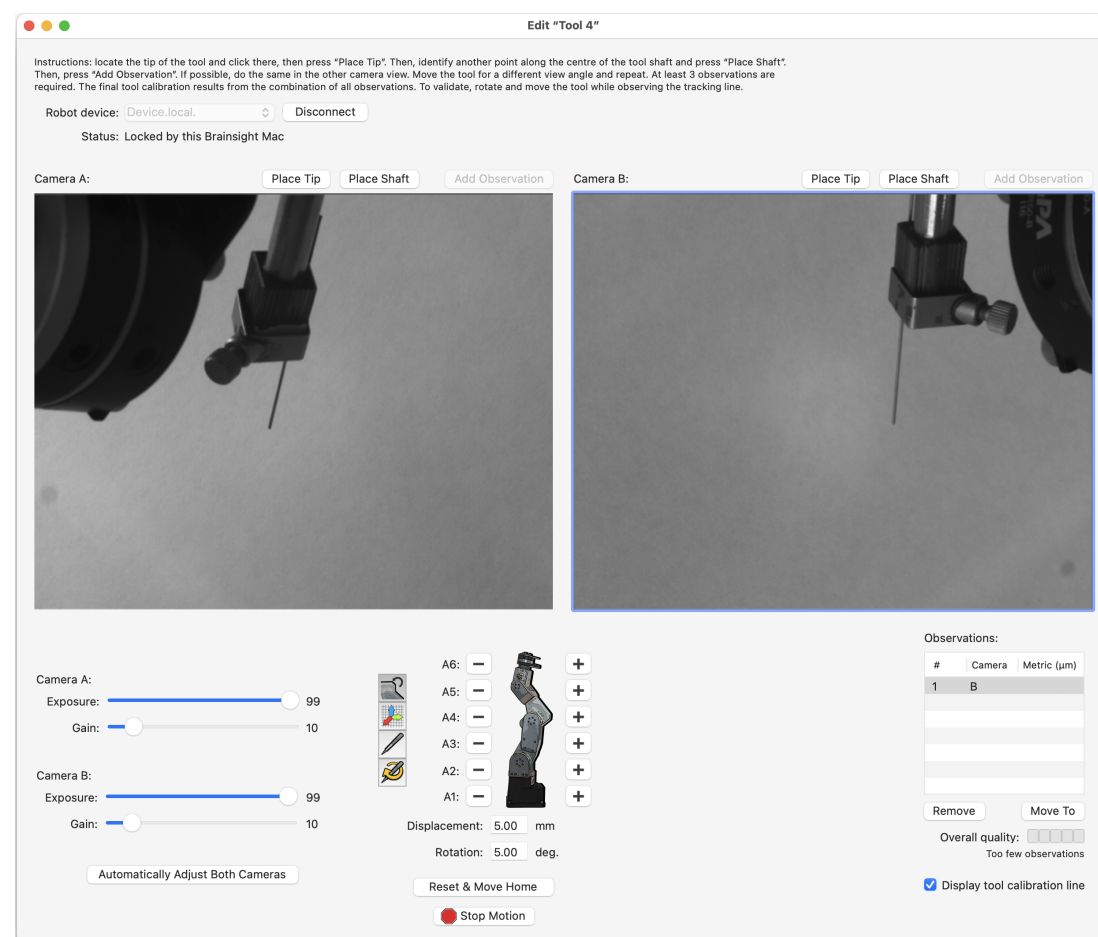

Fig. 3-17
7. The procedure will involve the robot moving about a wide range of locations. Remove any obstruction on the robot platform, as well as the stereotaxic frame. The software will prompt you to select the base plate you are currently using (see Fig. 3-17).